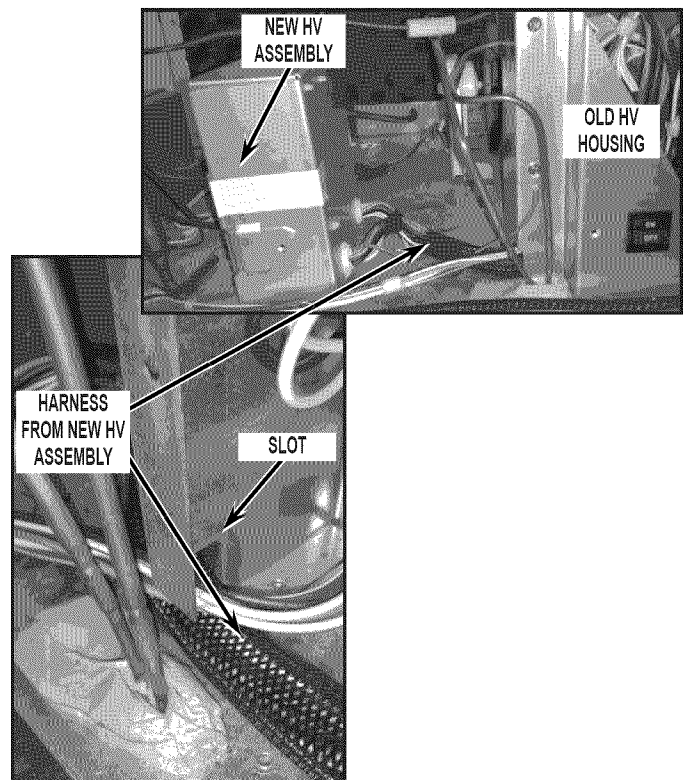

FIGURE 20
25. Place new HV assembly to the left of where old HV housing is located and route harness through the slot and into the old HV housing as shown, and proceed to make all the connections to the connectors removed from the old HV board in step 22. See *Figure 20*.